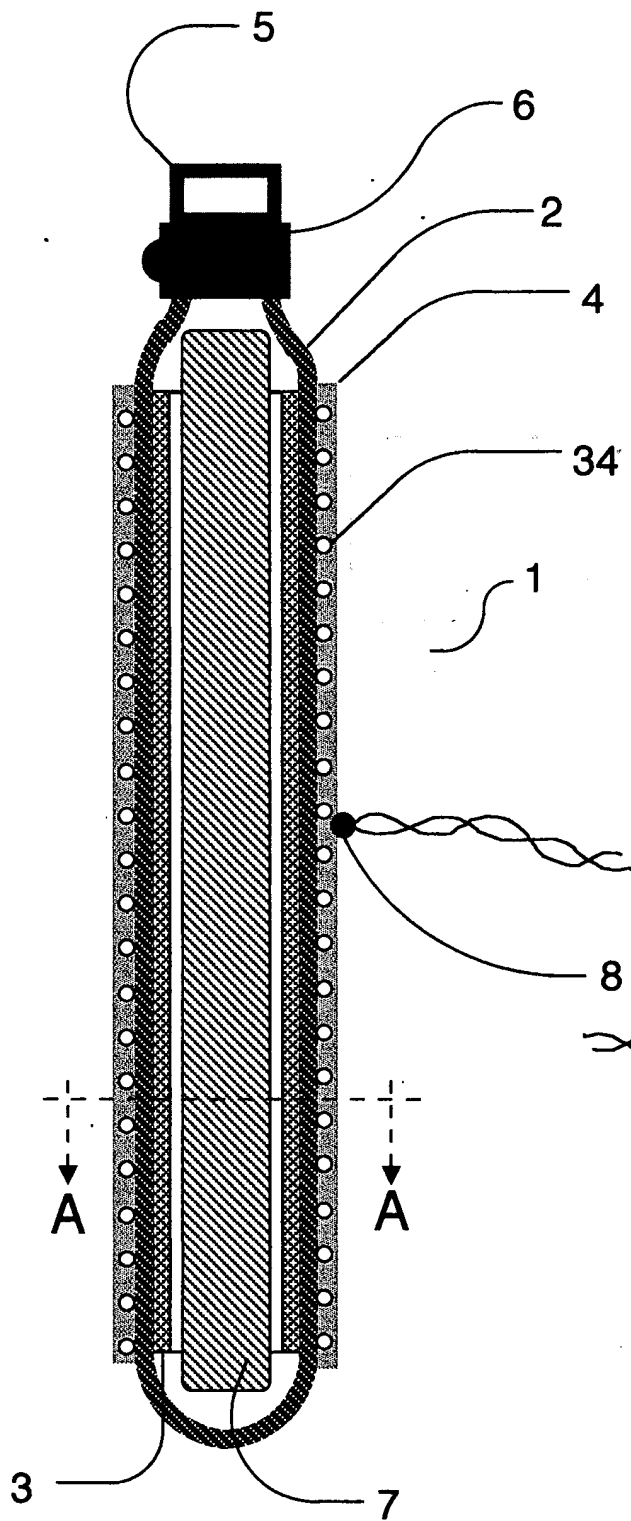

Fig. 1
Figures 1 thru 9
Fig. 1 is a schematic cross-sectional view of a vertical device. A central vertical tube (36) contains a wavy line (38) and a dashed line with arrows (37) indicating flow. The tube is surrounded by a thick wall (39) and an outer casing (40). A side arm (5) is attached to the left side of the tube. Labels 3, 36, 37, 38, 39, 40, and 5 are present.